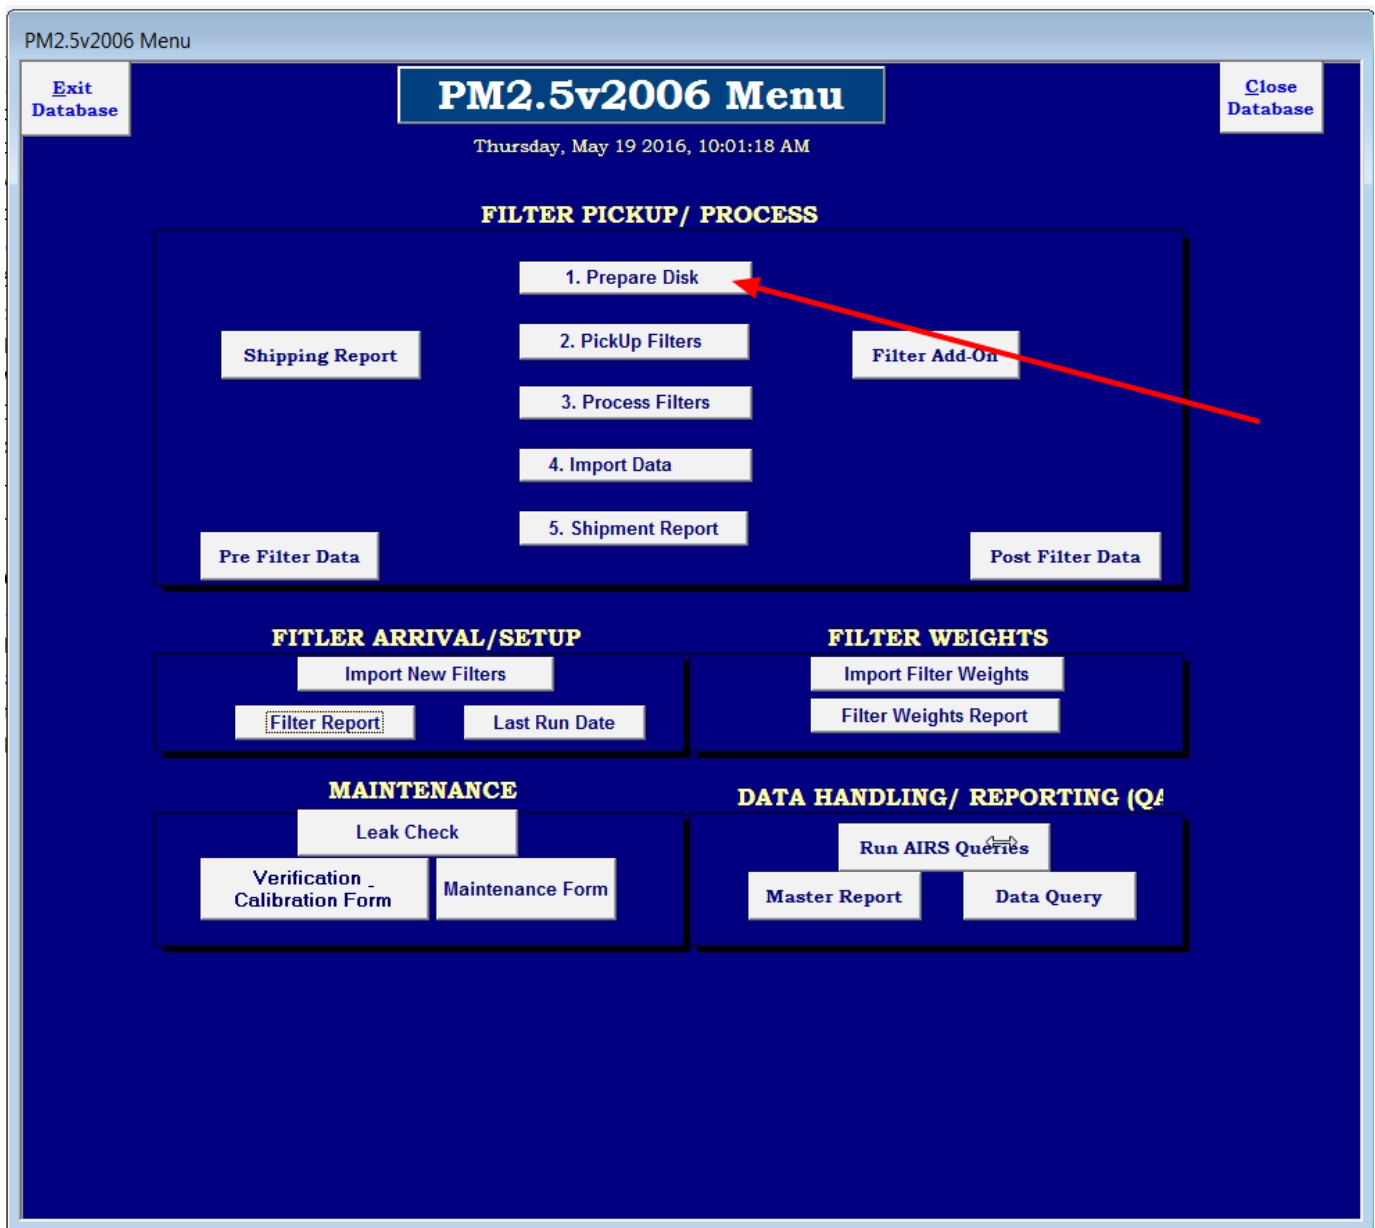

Figure 19: Prepare Disk Button
6.4.3.1.3 On the database screen hit "1. Prepare Disk" (see Figure 19). The disk has two directories: HA3 and HA6. Within each directory are filter, input and interval file names. Press "OK" when "PM_{2.5} Disk Ready" window pops up.